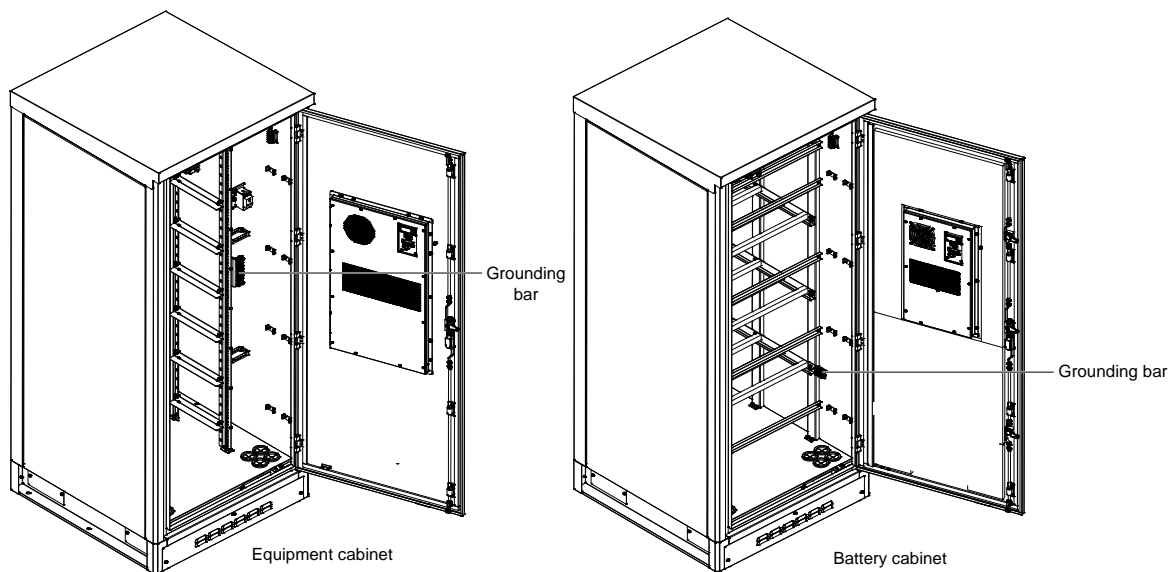

Figure 2-20 Position of grounding bar
2. Connect one end of the earth cable to the grounding bar (see Figure 2-20) in the cabinet, and solder the other end to the earth metal base reliably.